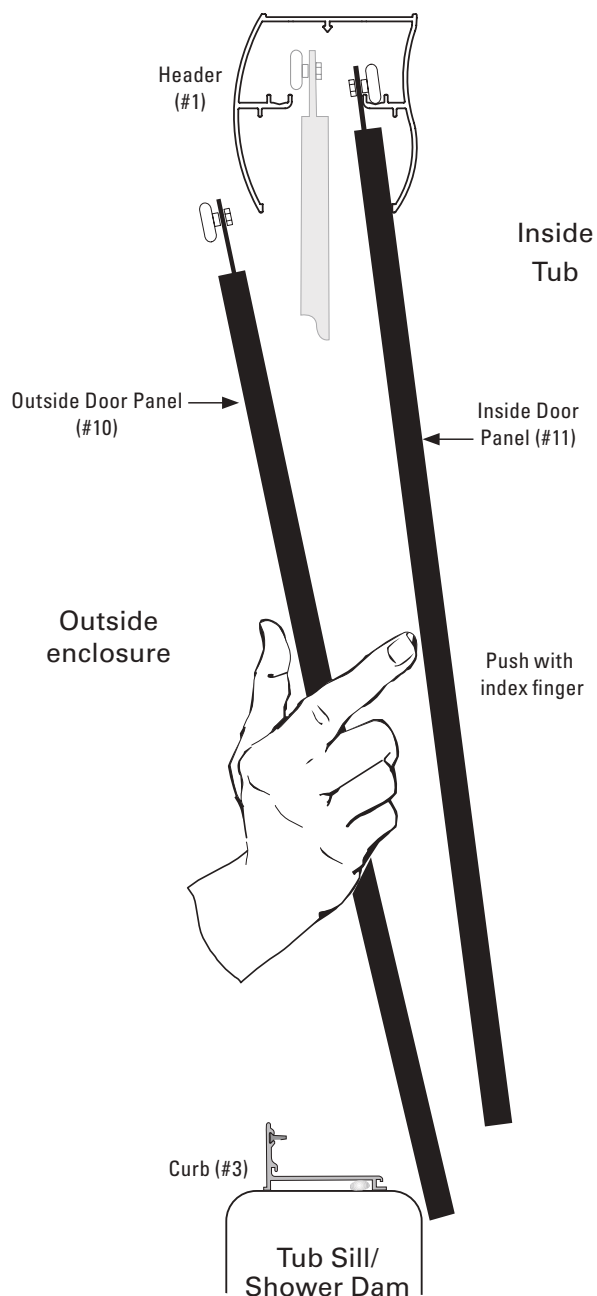

Figure 7
B. If someone is assisting you, have them hold the Inside Door Panel back, out of your way for this step. Hold the Outside Door Panel so that the Wheels are facing towards you. Standing outside and facing the shower enclosure, use the index fingers of both hands to carefully push the Inside Door Panel back and out of the way as you lift the Outside Door Panel up and over the Curb and then insert the Top Rail Wheel Assemblies up and into the Header (See **Figure 7**). DO NOT let the two Panels strike one another. Gently set the Wheels into the front track of the Header.